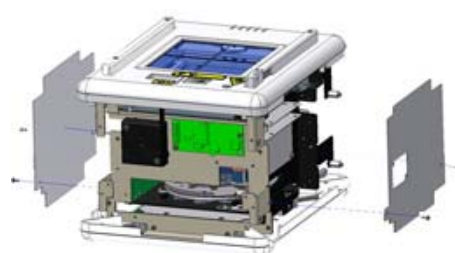

Fig. 2
- Remove the lateral partitions, see **Fig. 2**
- Remove the lateral partitions, see **Fig.2**